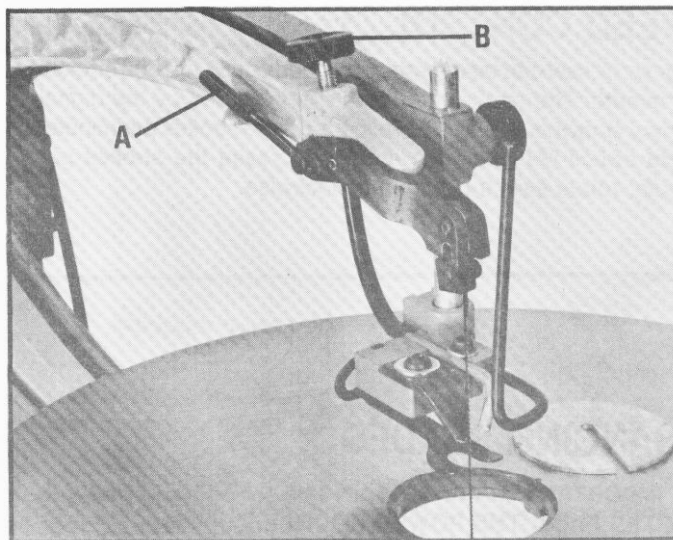

Fig. 20
Tension is applied to the blade when the blade tension lever (A) is in the rear position, as shown in Fig. 20. When the lever (A) is moved forward, blade tension is released.
To increase blade tension, turn knob (B) Fig. 20, clockwise and to decrease blade tension, turn knob counterclockwise. When adjusting tension, lever (A) should be in the forward position.